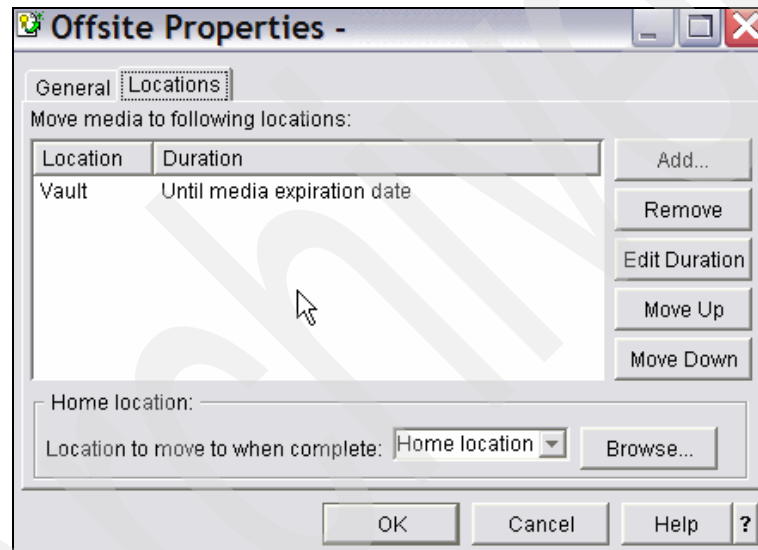

Figure 5-55 BRMS standard move policy OFFSITE
1. Bring the volumes to location VAULT, as shown in Figure 5-55.